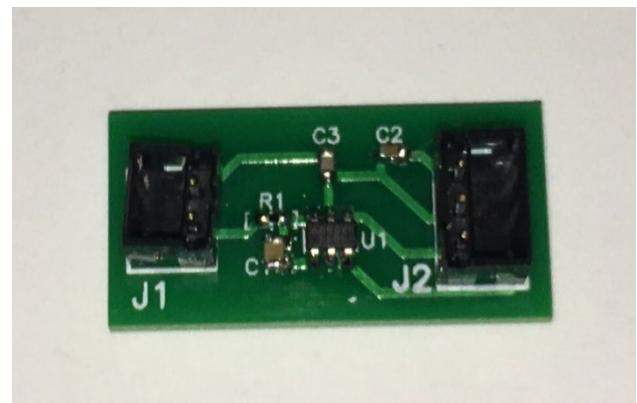

Figure 35 Lick sensor PCB with components soldered on.
- See Figure 35 for the completed capacitive lick PCB.